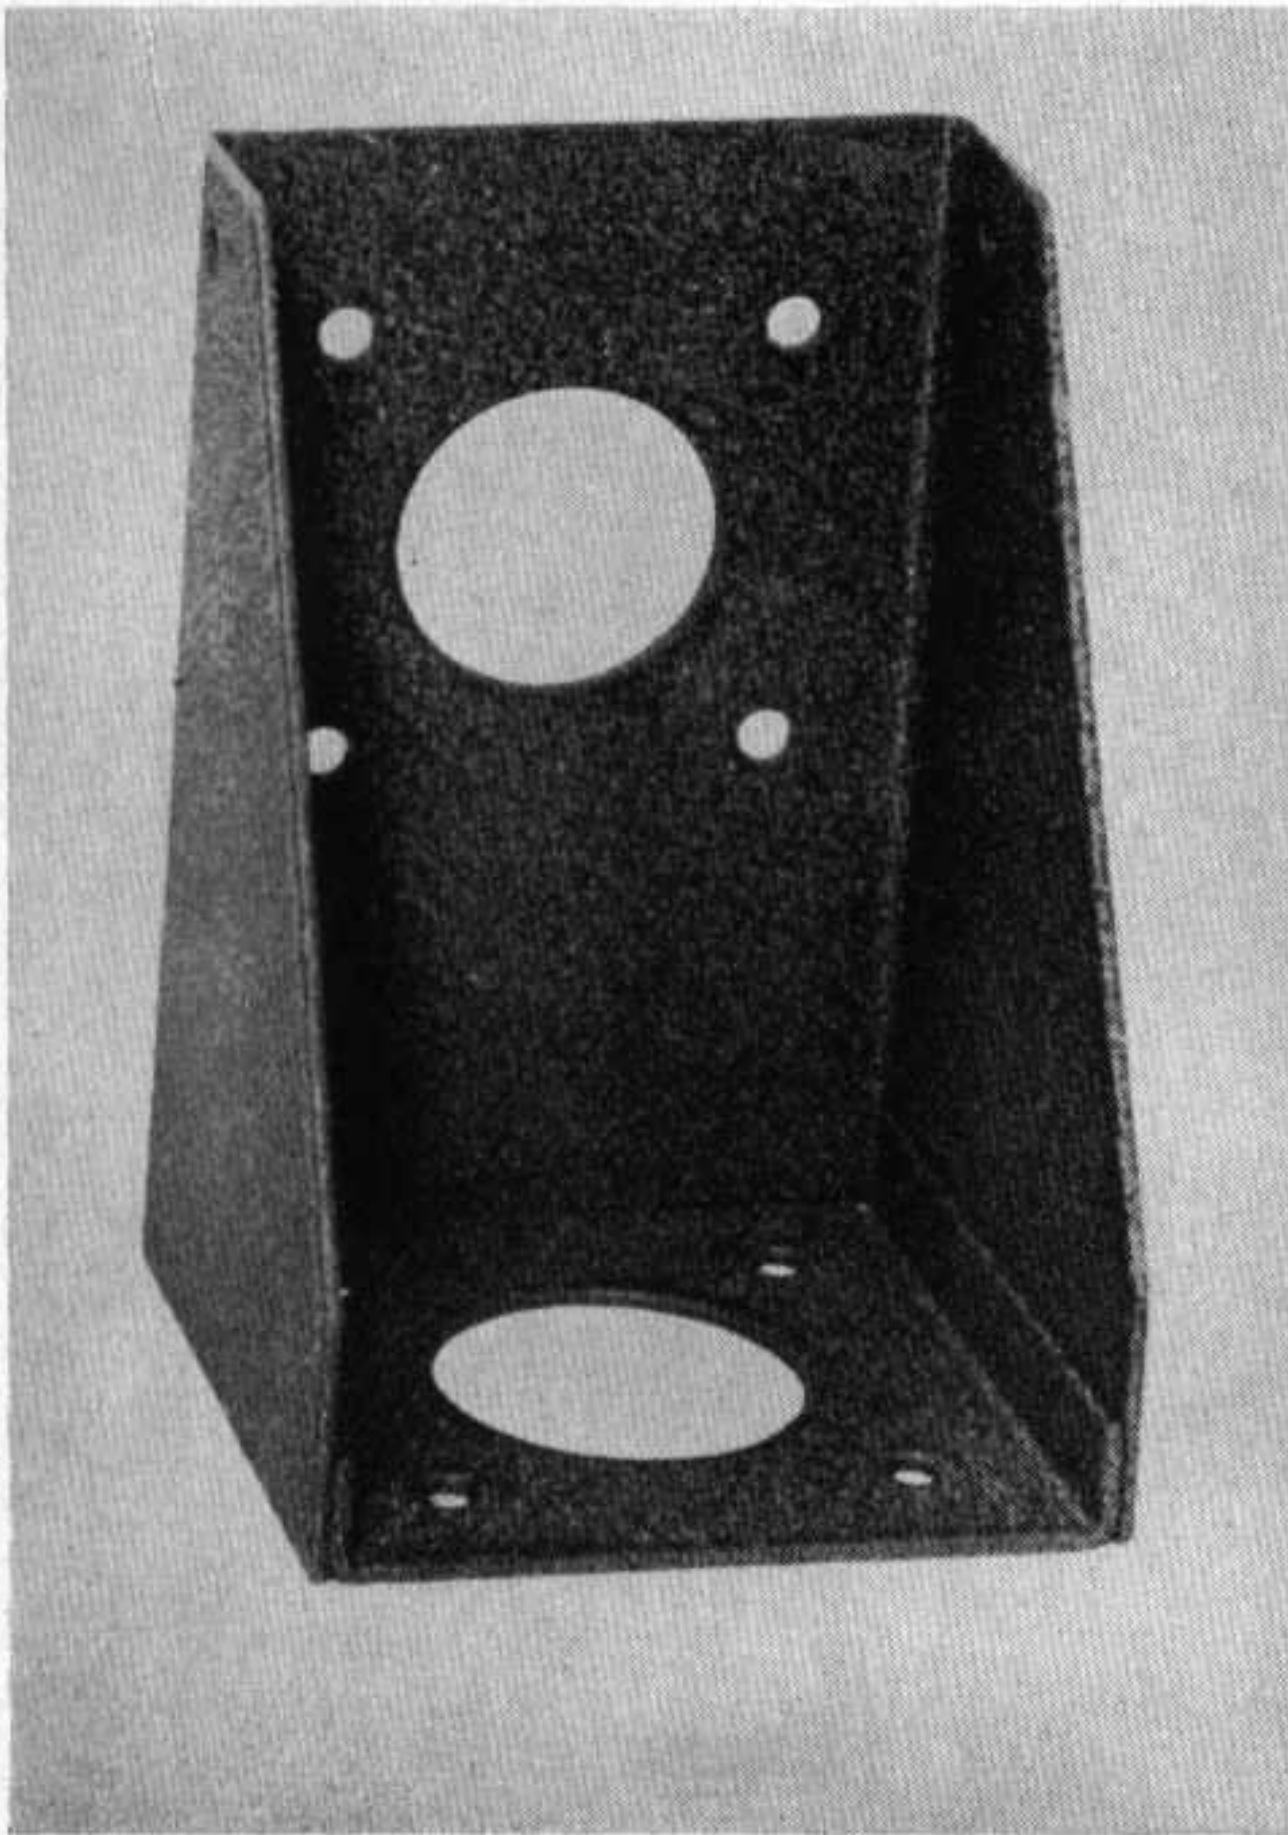

Figure 18. Mast bracket MP-50
e. MAST BRACKET MP-50 (fig. 18). This is a heavy steel bracket which is used to mount Mast Base MP-65-A-GY on the rear of a vehicle (fig. 49).